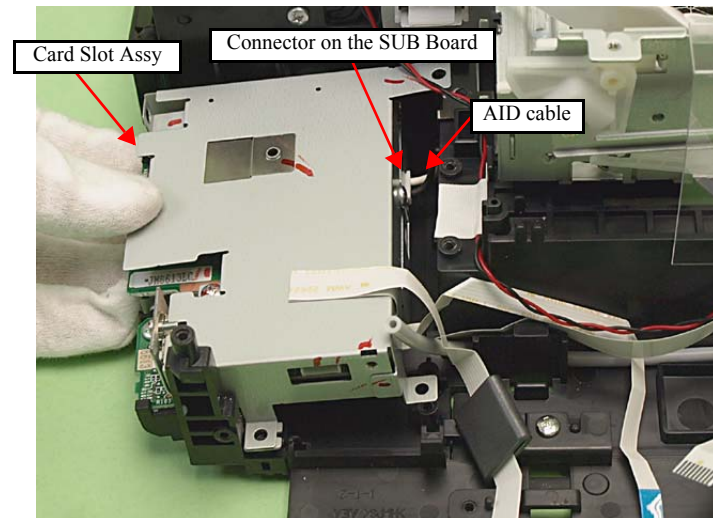

Figure 4-54. Removing the Card Slot Assy (2)
- Connect the AID cable properly to the connector on the SUB Board. (See Fig. 4-54.)